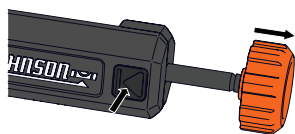

Figure 22
1. To mount the clamp to a grade rod, press the clamp release button and pull the clamp knob out. (*Figure 22*)